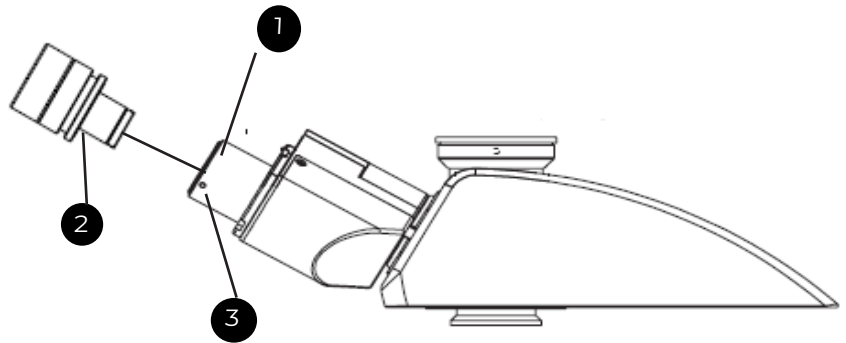

Fig. 3
3. Tighten eyepiece with M2.5 inner hexagon lock-screw **3** (see Fig.3).